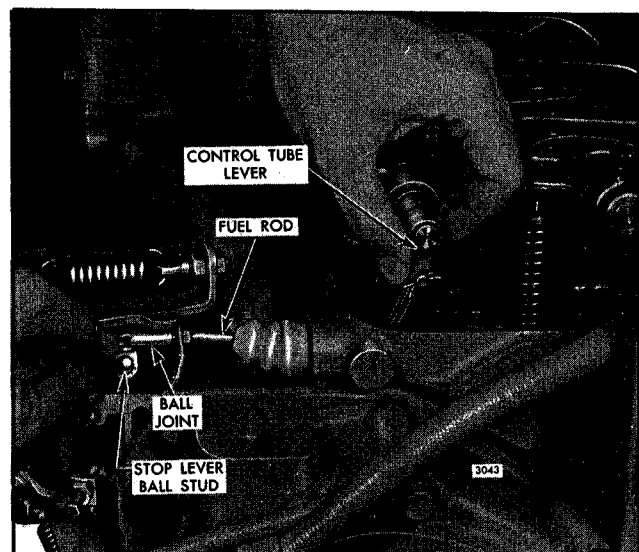

Fig. 4 - Adjusting Fuel Rod Length
7. Loosen the nut which locks the ball joint on the fuel rod. Hold the fuel rod in the *full-fuel* position and adjust the ball joint until it is aligned and will slide on the ball stud on the stop lever (Fig. 4). Position the shutdown cable clip and tighten the fuel rod lock nut to retain the adjustment.